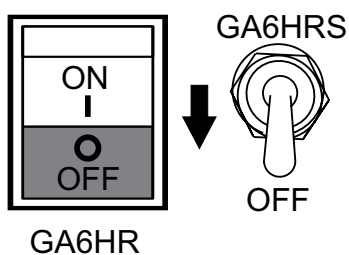

Figure 28. Operation Switch (OFF)
4. To shut-down the engine, place the generator's operation switch (Figure 28) in the **OFF** position.